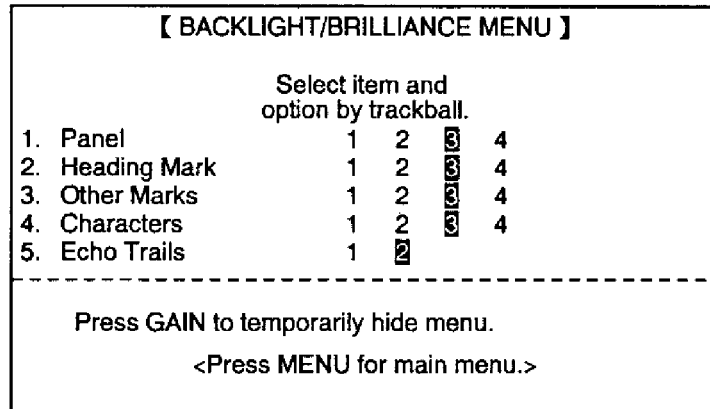

Figure 1-7 Backlight/brilliance menu
- 3) Press the **CTRL** key. Figure 1-7 shows the Backlight/Brilliance menu.